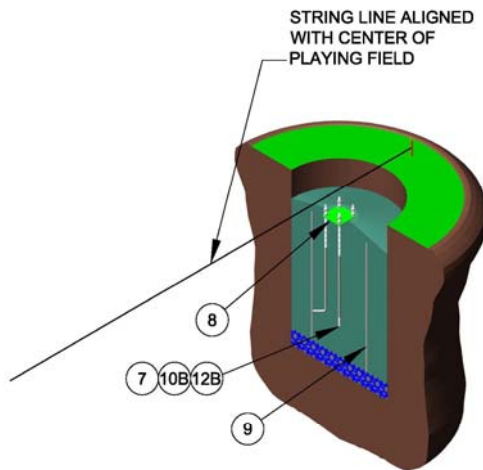

FIGURE 6
Post Installation – Plate Mount (Figures 6,7,& 8)
- Insert the plate and rod assembly into the concrete and work it down until the bottom of the plate is touching the concrete. (Figure 6) Make sure the center of the plate is directly under the string line and make sure the center of the plates is $6'-2\frac{3}{4}"$ behind the front of the end zone end line for the $5\frac{9}{16}"$ post or $5'-2\frac{1}{4}"$ behind the front of the end zone end line for the $4\frac{1}{2}"$ post.